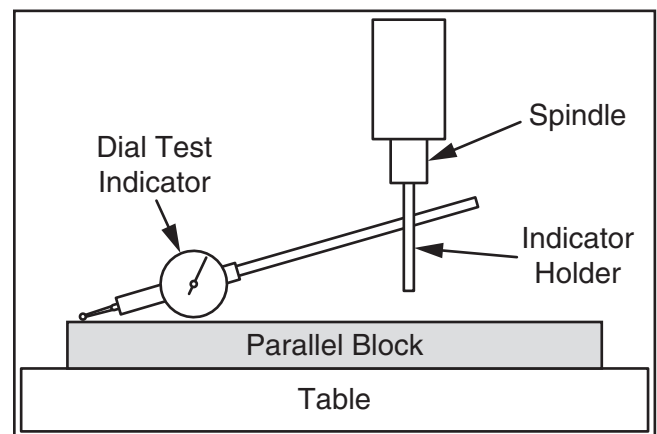

Figure 87. Dial test indicator mounted.
4. Install indicator holder in spindle or on quill, then mount indicator so that point is as parallel to block as possible (see **Figure 87**).
- Rotate spindle by hand so that indicator point rests on one end of parallel block, as illustrated in **Figures 87–88**, then zero the dial.